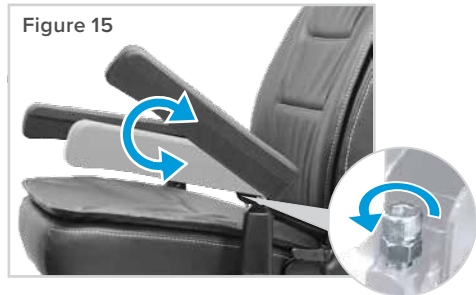

Figure 15
- **Angle:** Rotate the screw as picture to adjust the most comfortable armrest angle. (Figure 15)